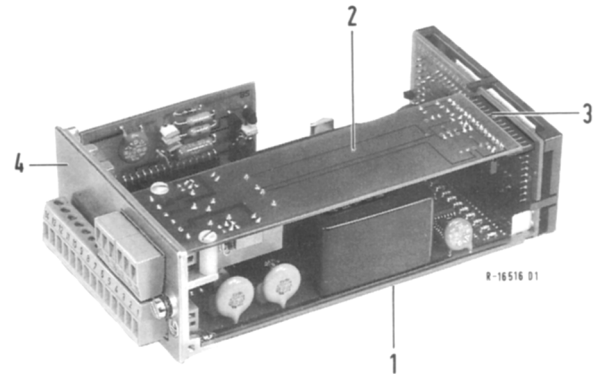

Fig. 16 Position of the alarm signal card
- Remove rear panel (4) by undoing the screws on the basic circuit board (1) and the screw on the display control card (if available; see also Fig. 16).
- Fit alarm signal card (2) into the connector strip (3).